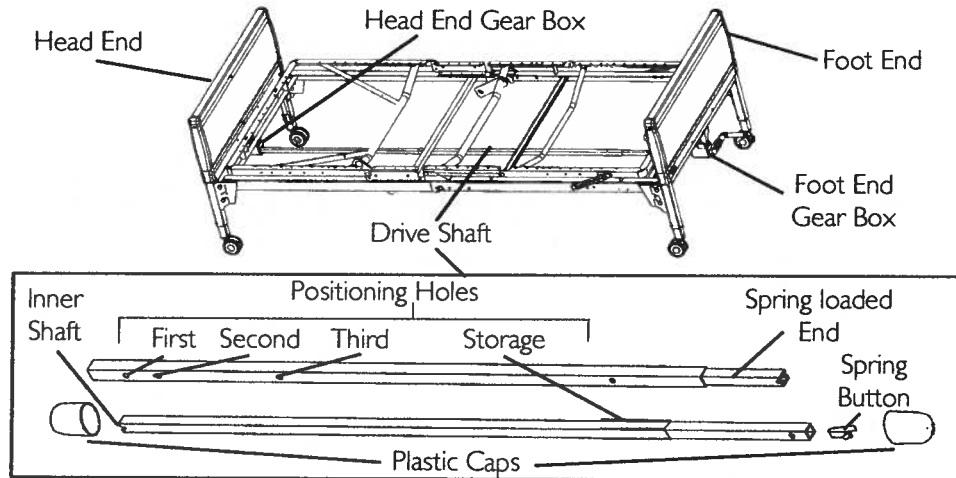
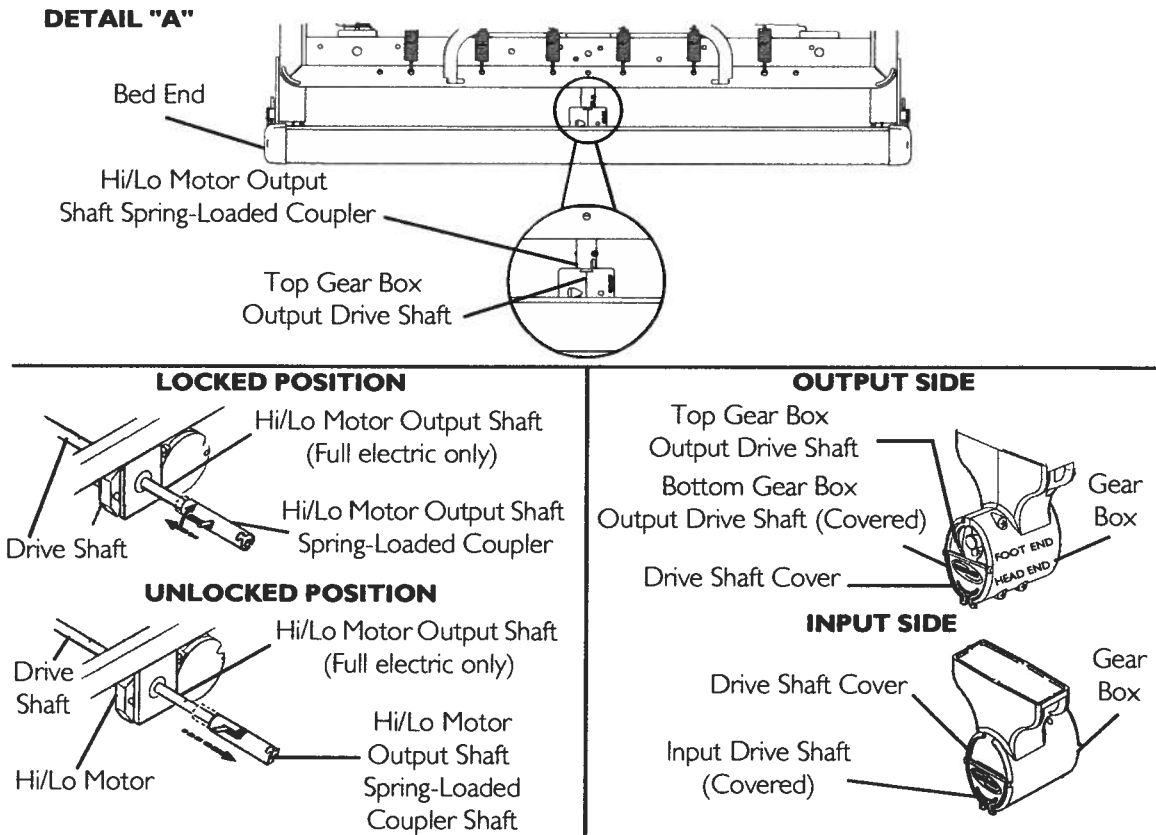

FIGURE 4.9 Assembling the Drive Shaft
FIGURE 4.10 Assembling the Drive Shaft
NOTE: For this procedure, refer to FIGURE 4.9 on page 28 and FIGURE 4.10 on page 29.
- For semi-electric and manual beds, use the first positioning hole. See FIGURE 4.9.
- For beds with single shaft gear boxes, use the second positioning hole. See FIGURE 4.9.
- For full electric models, use the third positioning hole. See FIGURE 4.9.
- ii. Ensure the Hi/Lo motor output shaft spring-loaded coupler is properly aligned with the foot end gear box as shown in Detail "A" of FIGURE 4.10.